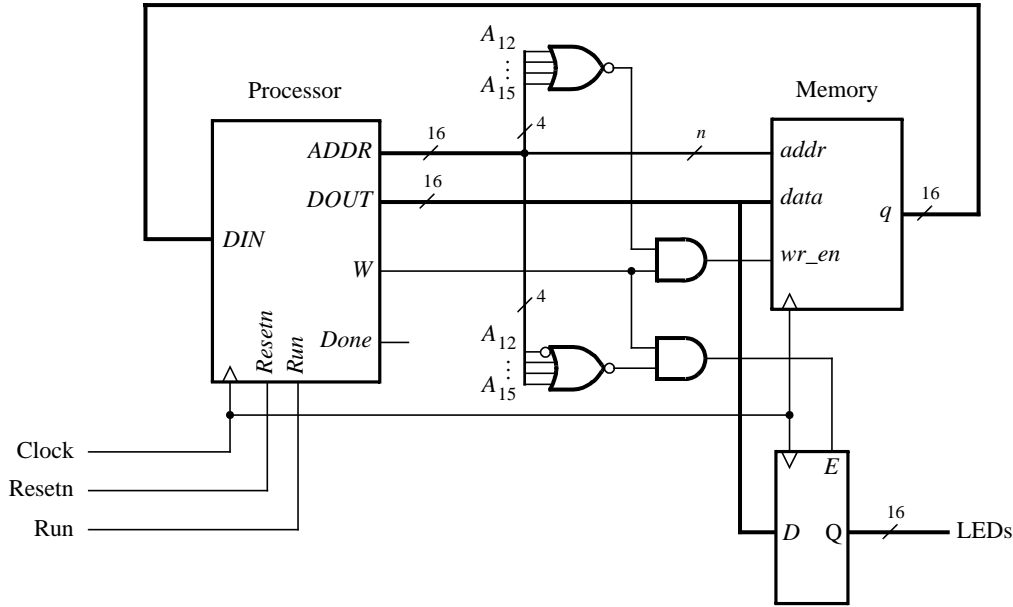

Figure 8. Connecting the enhanced processor to a memory and output register.
Figure 8 illustrates how the enhanced processor is connected to memory and other devices. The memory unit in the figure supports both read and write operations and therefore has both address and data inputs, as well as a write enable input. The memory also has a clock input, because the address, data, and write enable inputs must be
loaded into the memory on an active clock edge. This type of memory unit is usually called a *synchronous random access memory* (*synchronous RAM*). Figure 8 also includes a 16-bit register that can be used to store data from the processor; this register might be connected to a set of LEDs to allow display of data on the DE2 board. To allow the processor to select either the memory unit or register when performing a write operation, the circuit includes some logic gates that perform *address decoding*: if the upper address lines are $A_{15}A_{14}A_{13}A_{12} = 0000$, then the memory module will be written at the address given on the lower address lines. Figure 8 shows n lower address lines connected to the memory; for this exercise a memory with 128 words is probably sufficient, which implies that $n = 7$ and the memory address port is driven by $A_6 \dots A_0$. For addresses in which $A_{15}A_{14}A_{13}A_{12} = 0001$, the data written by the processor is loaded into the register whose outputs are called *LEDs* in Figure 8.
2. Write Verilog code for the processor and test your circuit by using functional simulation: apply instructions to the *DIN* port and observe the internal processor signals as the instructions are executed. Pay careful attention to the timing of signals between your processor and external memory; account for the fact that the memory has registered input ports, as we discussed for Figure 8.
3. Create another Quartus II project that instantiates the processor, memory module, and register shown in Figure 8. Use the Quartus II MegaWizard Plug-In Manager tool to create the ALTSYNCRAM memory module. Follow the instructions provided by the wizard to create a memory that has one 16-bit wide read/write data port and is 128 words deep. Use a MIF file to store instructions in the memory that are to be executed by your processor.
Connect the *LEDs* register in Figure 8 to *LEDR*_{15–0} so that you can observe the output produced by the processor.
1. Create a Quartus II project for your circuit and write the Verilog code that includes the circuit from Figure 8 in addition to your *seg7_scroll* module.